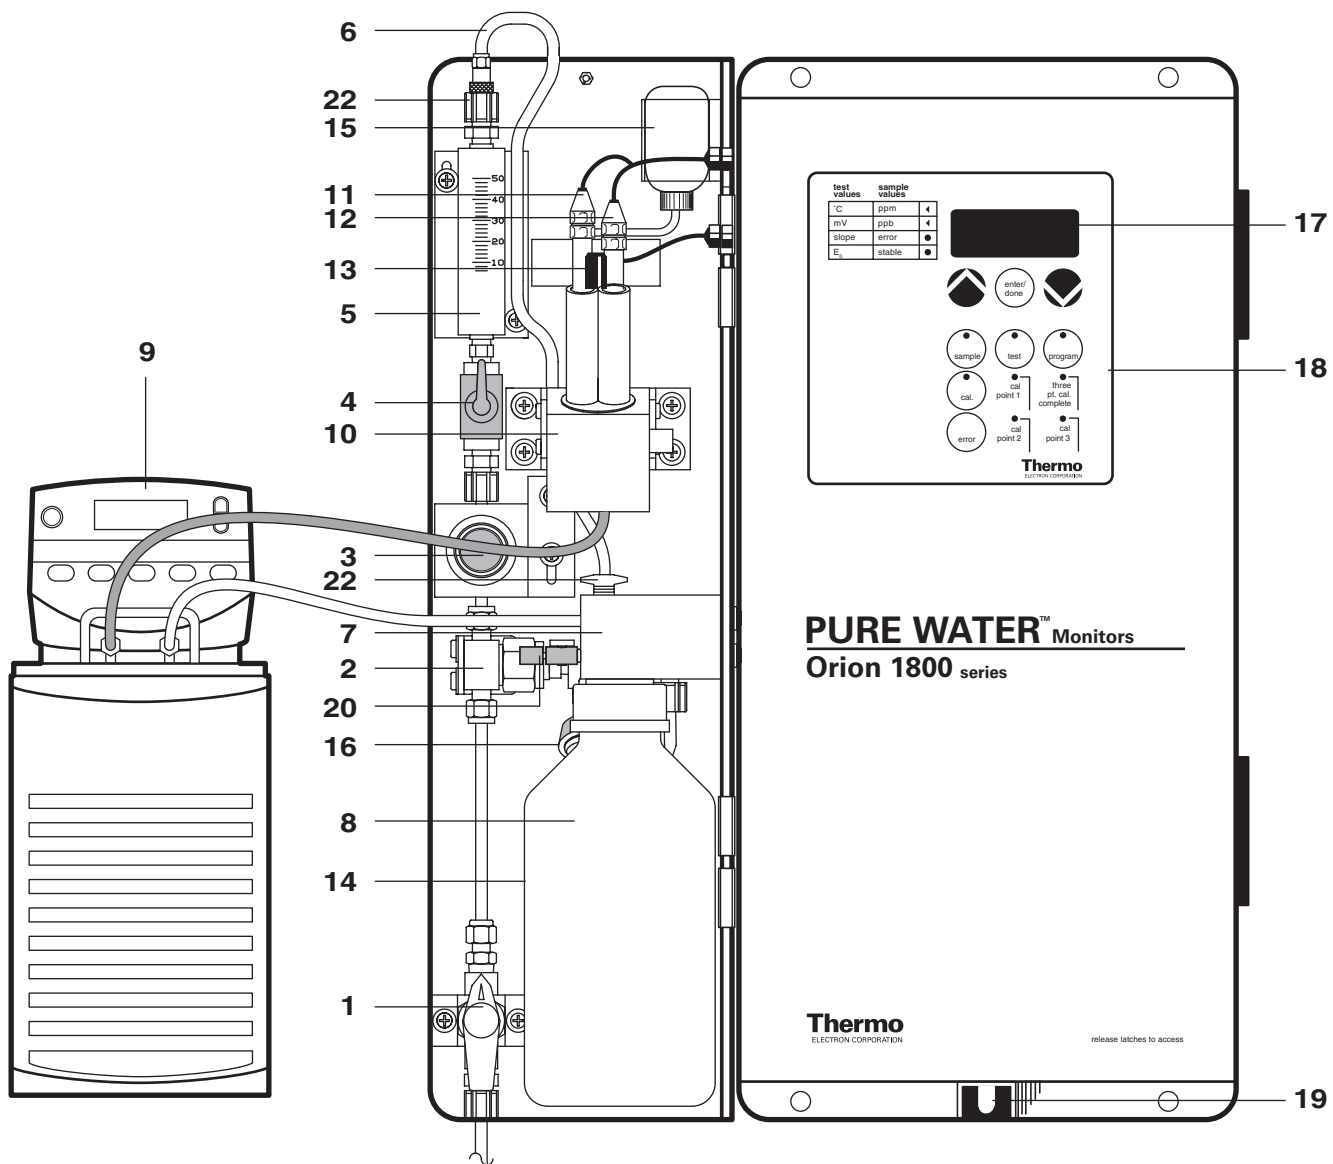

Figure 3:
NOTE: Numbers in the description refer to Figure 3.
2. Insert chloride electrode into sensing hole of flow cell cap. See **Figure 3**. Sensing electrode is placed in the hole to the right of the divider seen in flow cell and the hole closest to the electronics cabinet.
7. Connect electrode to electronic chassis by “keeper cable” labeled “Ref. Elect.” Insert electrode into reference hole in flow cell cap. See **Figure 3**.
When the Orion 1817LL Monitor is first commissioned, it is advisable to flush out fluidics system overnight prior to initial calibration and use. The electronics need not be turned on at this time. Refer to **Figure 3**.